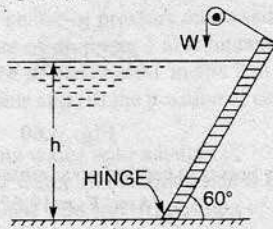

Fig. 3.54
14. A rectangular gate $6\text{ m} \times 2\text{ m}$ is hinged at its base and inclined at 60° to the horizontal as shown in Fig. 3.54. To keep the gate in a stable position, a counter weight of 29430 N is attached at the upper end of the gate. Find the depth of water at which the gate begins to fall. Neglect the weight of the gate and also friction at the hinge and pulley. [Ans. 3.43 m]